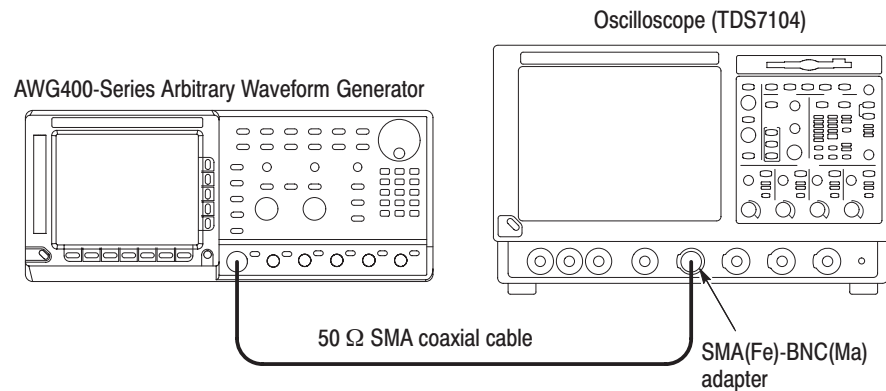

Figure 4–23: Internal trigger initial test hookup
- a. Use the 50 Ω BNC coaxial cable to connect the AWG400-Series Arbitrary Waveform Generator **CH1** output connector to the oscilloscope CH1 input connector (see Figure 4–23).